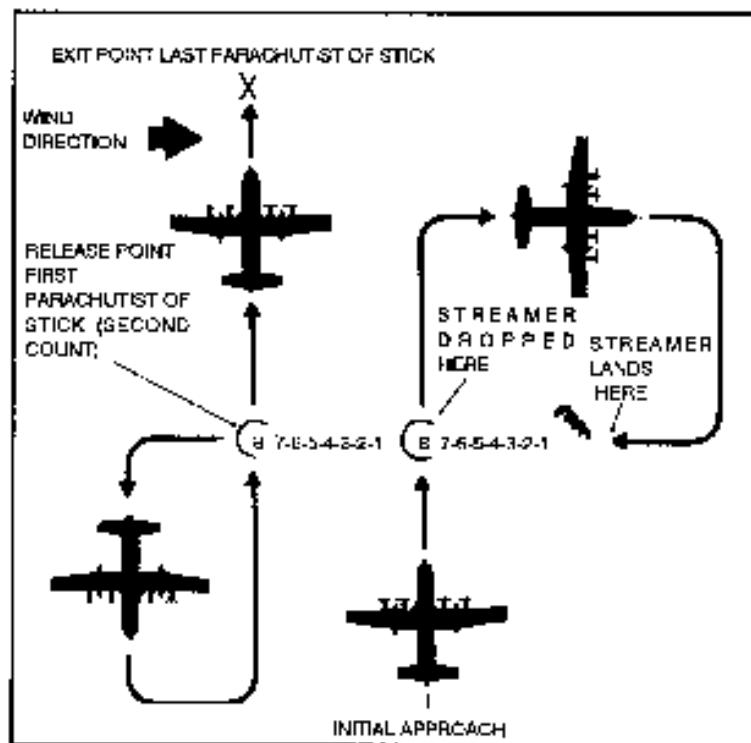

Figure 6-7. Wind streamer vector count.
d. In case the release point (RP) falls off the DZ making the markings not visible, or the GTA operator cannot see the aircraft, the parachute drop can be changed to a jumpmaster-directed release operation using the wind streamer vector count (Figure 6-7).